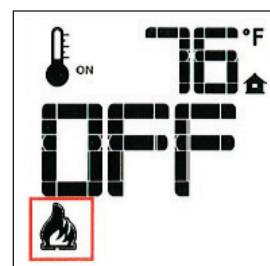

Figure 44. Burner OFF.
- With the system ON, and the burner flame level at maximum, press the Down Arrow Key once to reduce the flame height by one step. Each time the Down Key is pressed, the flame will step down until the burner is finally turned off. Fig. 44.